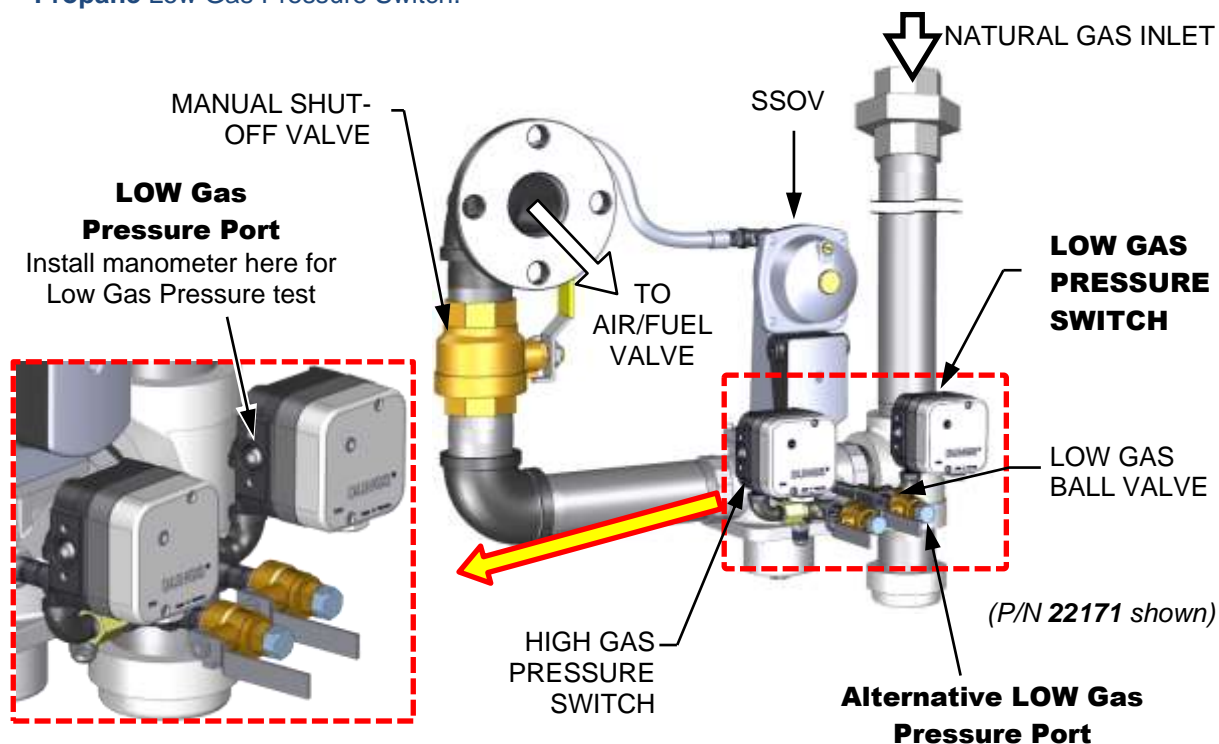

Figure 5-2a: BMK3000 LOW and HIGH Gas Pressure Test Components
To simulate a low gas pressure fault on BMK3000 – 6000 units, refer to Figure 5-2a, 5-2b, and 5-2c below, and perform the following steps:
3. Locate the port on the top of the Low Gas Pressure switch and loosen the screw inside a few turns to open it. **Do not remove this screw completely.** Alternatively, you can remove the 1/4-inch plug shown in Figure 5-2a and 5-2b and install a hose barb fitting in that location.